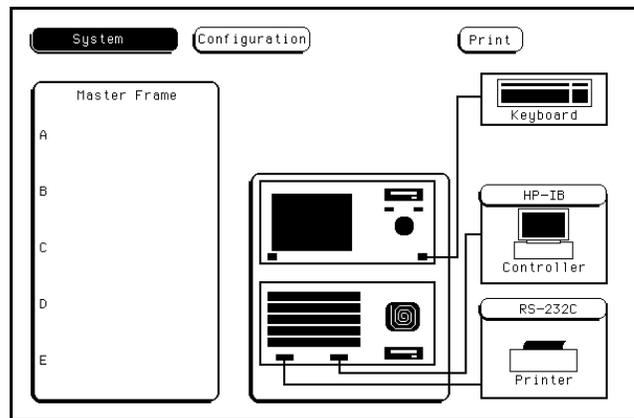

Figure 4-10. System Configuration
10. After the operating system has been reloaded, the System Configuration will be displayed. See figure 4-10.